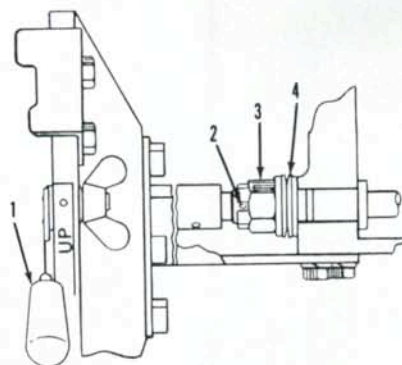

Fig. 271—View of control lever (1) friction adjusting nut (3), cotter pin (2) and spring washers (4).
179. LEVER FRICTION. The control lever (1—Fig. 271) should require 2-3 Kg (4.5-6.5 pounds) of pull at lever knob to move the lever. Friction is adjusted by removing cotter pin (2) and turning nut (3) until desired lever friction is obtained.